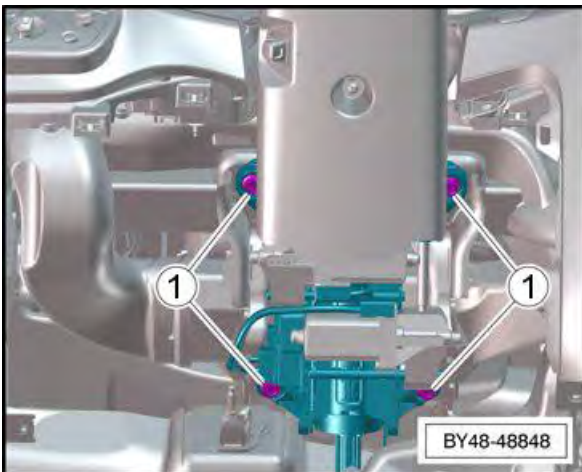

Figure 57
4. Referring to Figure 57 (points 1) check the torque of all 4 steering column fasteners part number N10665001 the torque of the fasteners is (20Nm)